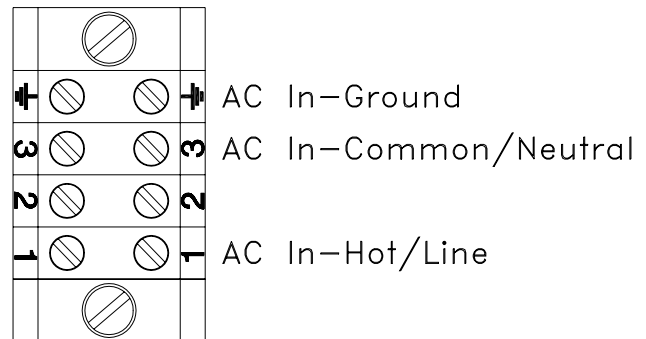

Figure 2: Terminal Block One (1TB)
1. Ensure the AC line cord is unplugged and remove the AC inlet receptacle wiring from 1TB-1, 1TB-3, and 1TB-Ground (see Figure 2 for AC input wiring locations).